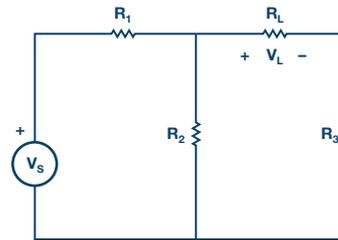

Figure 7. Circuit for maximum power theorem.
- ▶ a) Construct the circuit as in Figure 7 using the following values:
- ▶ d) Calculate the power for each load resistor value using $P_L = V_L/R_L$. Then, interpolate between your measurements to calculate the load resistor value corresponding to the maximum power (P_L -max). This value should be equal to R_{TH} of circuit in Figure 7 with respect to load terminals.